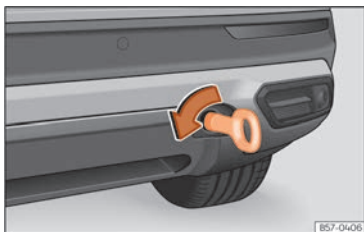

Fig. 48 On the right side of the rear bumper: towline anchorage in position.
- Screw the towline anchorage into the housing by turning it as far as it will go **anticlockwise** »» Fig. 48 »» ⚠. Use a suitable object that can completely and securely tighten the towing eye in its housing.